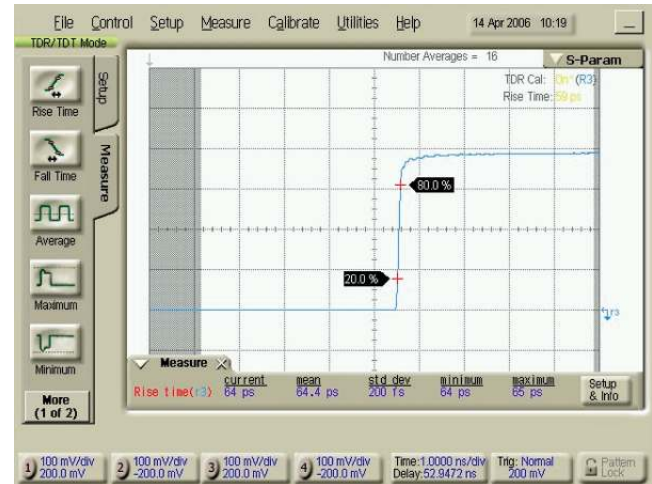

Figure 10. Differential Rise Time
- 1 Using the rise time measurement, measure and record the rise time of the differential response. See Figure 10.